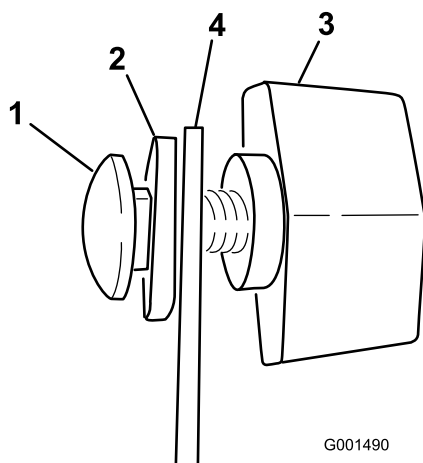

Figure 6
- Loosely install the 2 carriage bolts, rubber washers, and knobs on the bracket as illustrated in Figure Figure 5 and Figure 6.